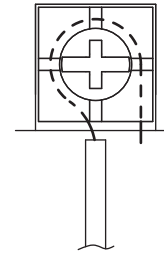

Fig. 22
- Connect the terminal as shown in Fig. 22.